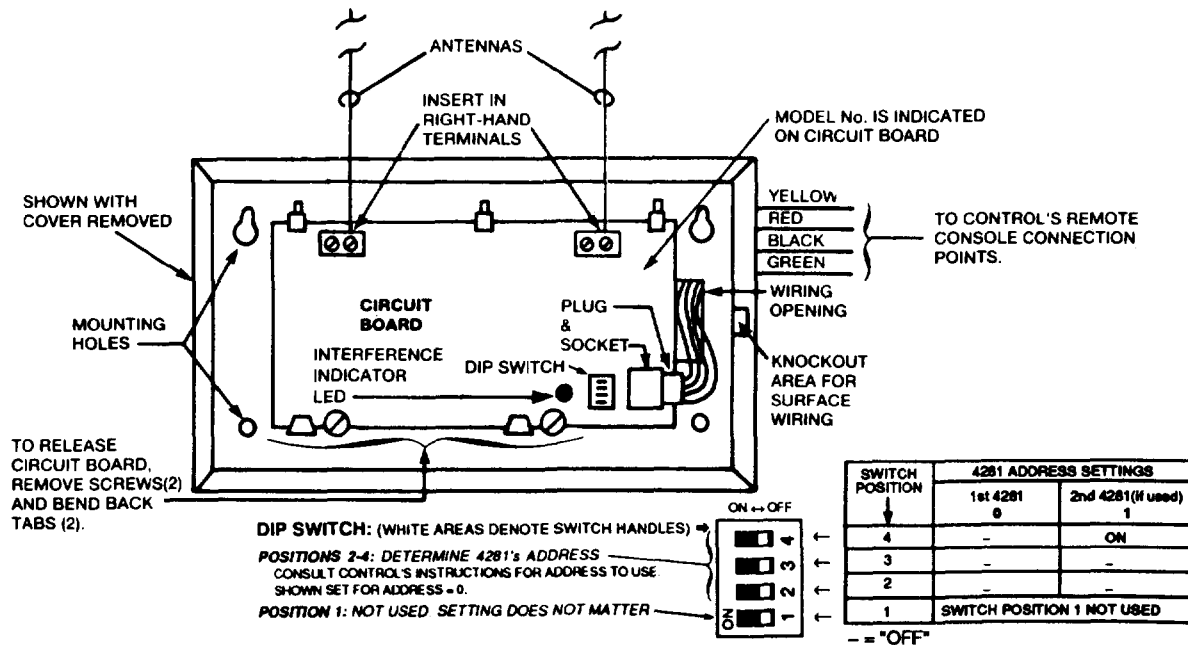

Figure 2. 4281-TYPE RF RECEIVER
- The receiver addresses must be different (1 and 2). See Table in Figure 2.